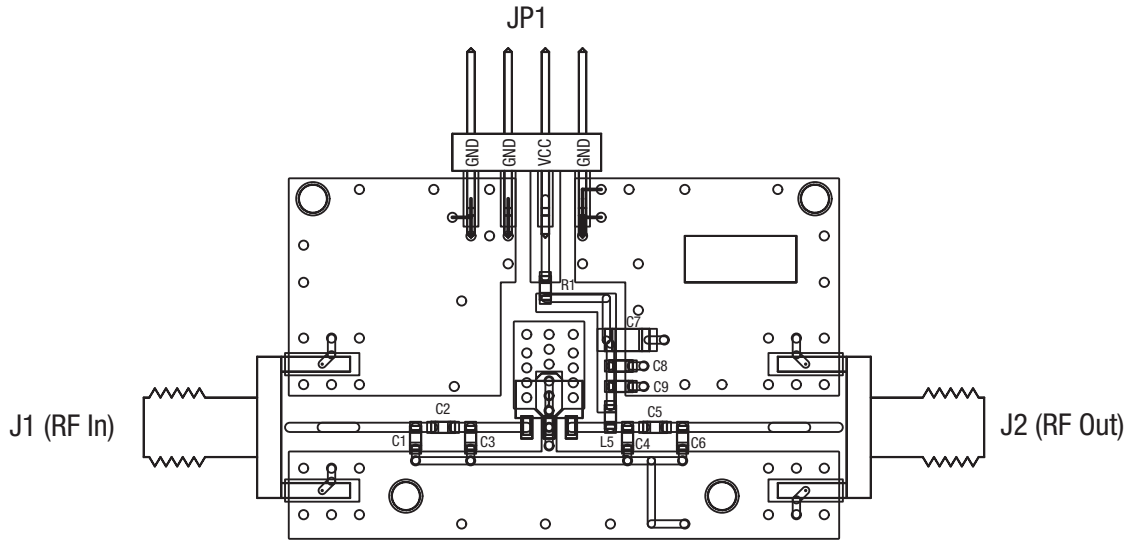

**Figure 93. SKY65009 Evaluation Board Schematic**
The Skyworks SKY65009 Evaluation Board is used to test the performance of the SKY65009-70LF PA driver. The Evaluation Board schematic diagram is shown in Figure 93, and component values vs. frequency information is shown in Table 5. An assembly drawing for the Evaluation Board is shown in Figure 94, and the layer detail is provided in Figure 95. The layer detail physical characteristics are noted in Figure 96.
3. Skyworks recommends including external bypass capacitors on the DC supply lines. An RF inductor is required on the VCC supply line to block RF signals from the DC supply. Refer to Figure 93 for more detail.